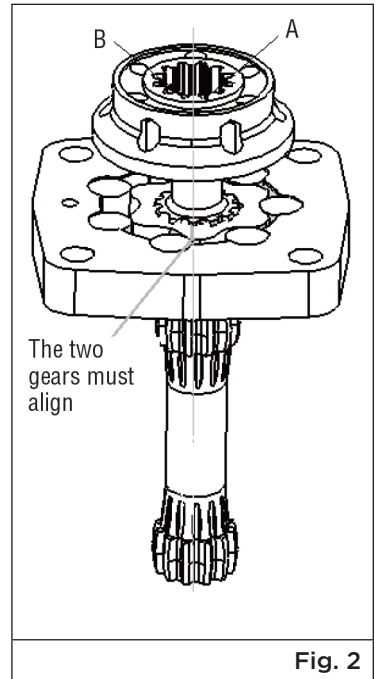

Fig. 2
1. Insert the lubricated shaft seal (3) into the housing (2). Use a shop press to seat the seal, and inspect the seal to ensure that it is not damaged.
2. Place the two needle bearings (6) back-to-back on the output shaft (4) and secure them in place using a shop press. Use the press machine to insert the needle bearing (6) and output shaft (4) assembly into the housing (2). Ensure that all components are properly aligned.
3. Lubricate the O-ring groove inside the housing (2), and insert the O-ring (9) into the groove.
4. Lubricate the butterfly washer (11) and place it inside the intermediate plate (12). Attach the intermediate plate (12) to the housing (2) where it aligns with the O-ring (9).
5. Insert the O-ring (15) into the O-ring groove of the intermediate plate (12).
6. Insert the drive link (10) into the output shaft (4).
7. Attach the Geroler Set [stator (16), roller (17), and rotor (18)] to the intermediate plate (12). Ensure that the teeth of the drive link (10) are properly aligned inside rotor (18).
8. Insert the ball (19) into the hollow of the balance plate (20). Lubricate two O-rings (15), and insert into the O-ring grooves on either side of the balance plate (20).
9. Insert the coupling (21) into the Geroler Set (16, 17, 18). Connect the side of the balance plate (20) that has the ball (19) attached to the stator (16).
10. Align the distributor plate (22), balance plate (20), and Geroler Set (16, 17, 18). Insert the coupling (21) into the internal splines of the distributor plate (22) (see Fig. 2).
11. Lubricate O-rings (24, 25) and insert them into the channel plate (23). Insert the pin (26) into the channel plate (23), and attach the assembled channel plate (23) to the end plate (29). Ensure that all parts are properly aligned.
12. Connect the assembled channel plate (23) and end plate (29) to the distributor plate (22).
13. Attach the end plate (29) to the assembly using the screws (33) and washers (32).
14. Insert the washer (13) into its groove and tighten the drain plug (14).
15. Put the dust seal (1) into the housing (2), and insert the woodruff key (5) into the output shaft (4).